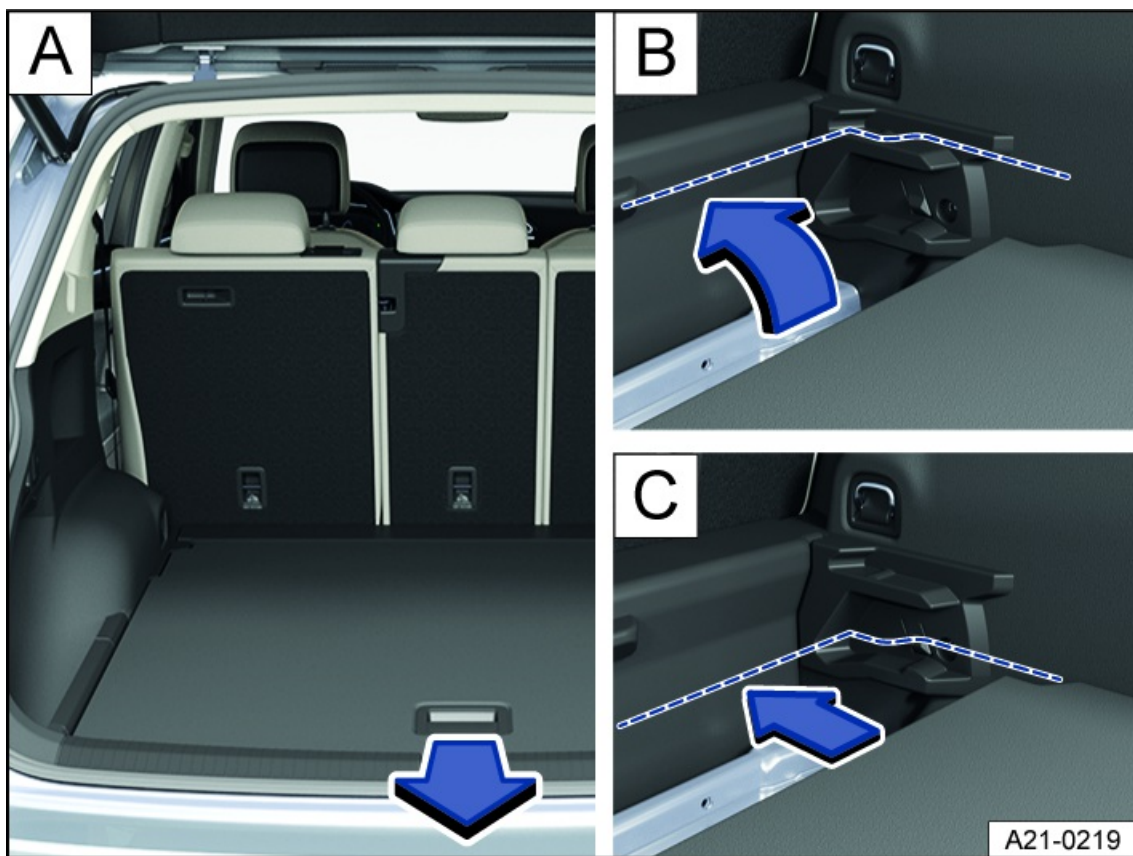

Fig. 175 In the luggage compartment: Adjusting the height of the luggage compartment floor.
2. Lift the luggage compartment floor and pull it backward in the direction of the arrow and out of the guides on the sides of the luggage compartment fig. 175 A.
1. Slide your fingers into the recessed grip fig. 175 A and pull the luggage compartment floor out in the direction of the arrow at the sides of the luggage compartment.